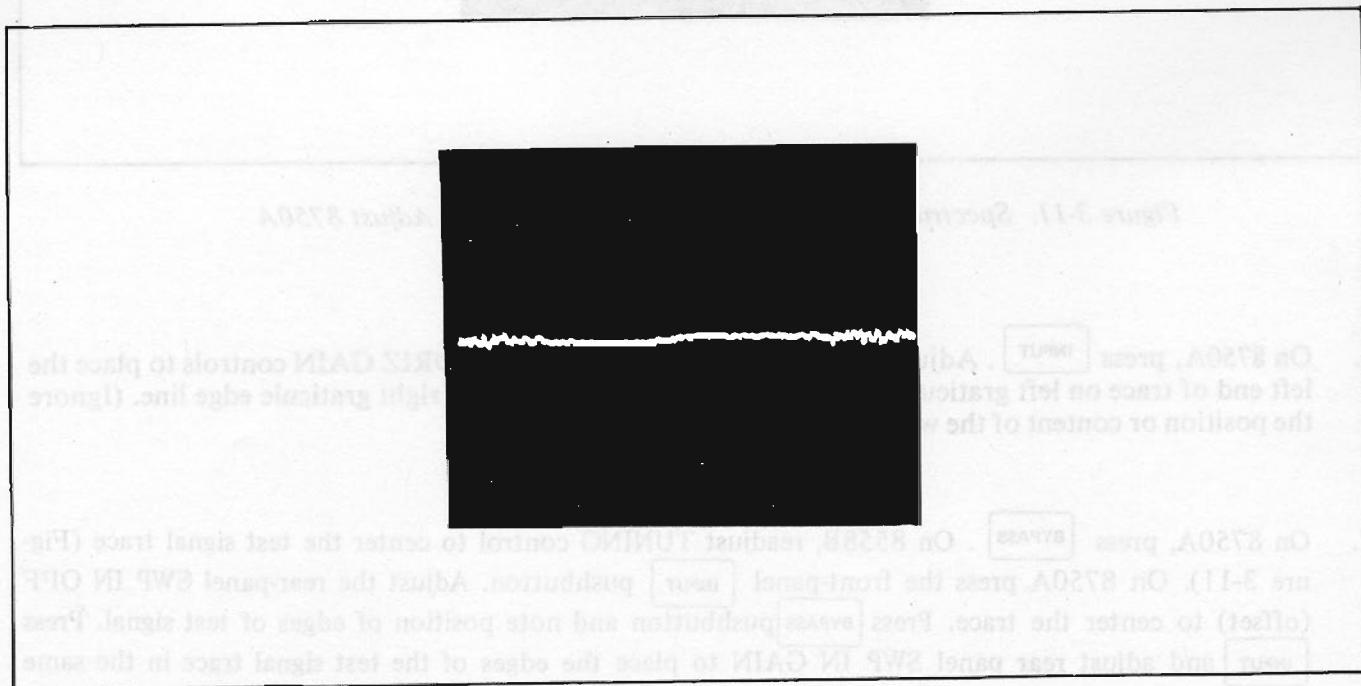

Figure 3-12. CRT Trace Showing Front-Panel VERT POSN Control Correctly Adjusted
8. On 8750A, press , , , then . The CRT trace should look like Figure 3-12. Adjust front-panel VERT POSN to place the CRT trace on the center graticule line.